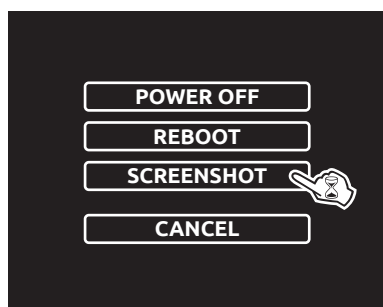

Fig. 5
- Press and hold the switching off key until Fig. 5 is displayed.